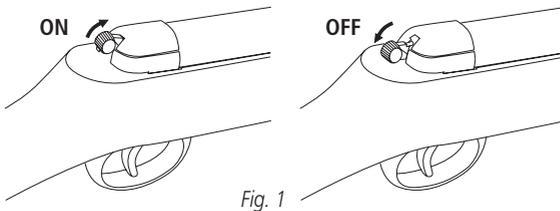

Fig. 1
- To set the safety to 'ON', push safety button upwards. In this position, the trigger cannot be pulled and the rifle cannot be shot. (Fig. 1)
- To remove the safety to 'OFF', pull safety button downwards. In this position, the rifle is ready to shoot. (Fig. 1)
**CAUTION:** Until you are actually ready to shoot, keep the safety button in the "ON" position. (Fig. 1)